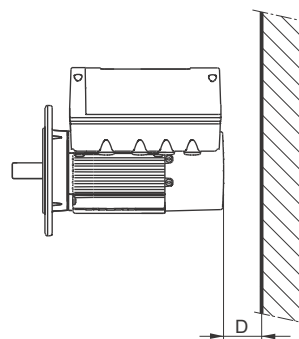

Fig. 3 Minimum distance (D) from the motor to a wall or other fixed objects
In order to ensure sufficient cooling of the motor, the distance (D) between the end of the fan cover and a wall or other fixed objects must always be at least 2.00" (50 mm) mm, irrespective of motor size. See fig. 3.